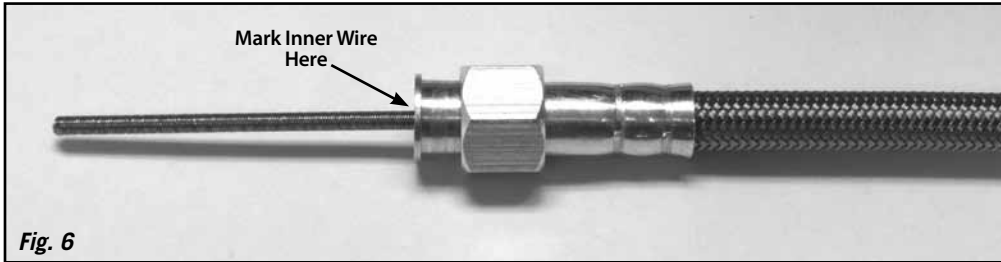

Fig. 6
Step 6: Route the speedometer cable housing back up to the speedometer. At the speedometer head, mark the inner wire flush with the end of the speedometer end fitting. Fig. 6 Remove the inner wire from the cable housing.